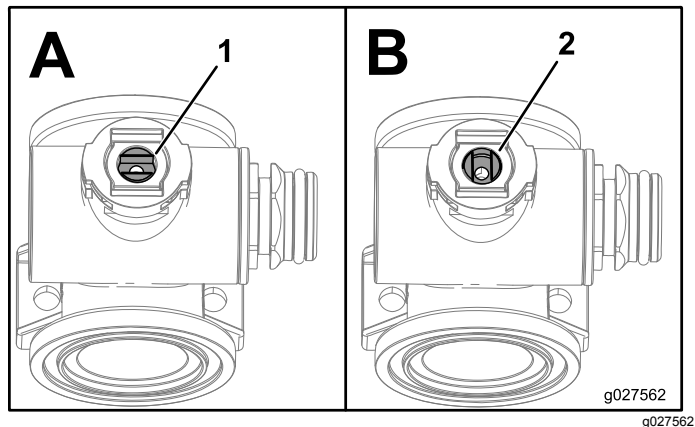

Figure 102
1. Position the valve stem so that it is in the closed position (B of Figure 102).
- Turn the valve stem so that the ball is in the open position (A of Figure 102).
- Turn the valve-stem assembly so that the valve is closed (B of Figure 102).